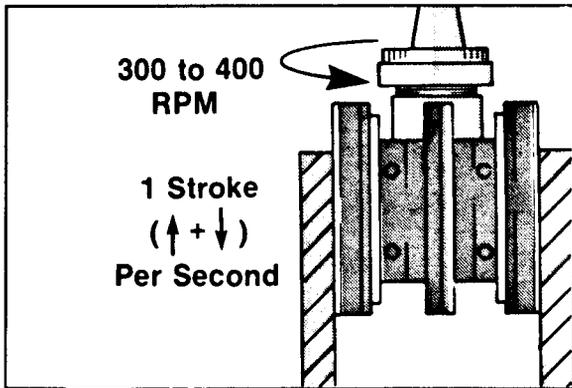

Figure 6-17
8. Operate sizing hone similar to Flexi-Hone. Inspect bore after 10 strokes (Figure 6-17).